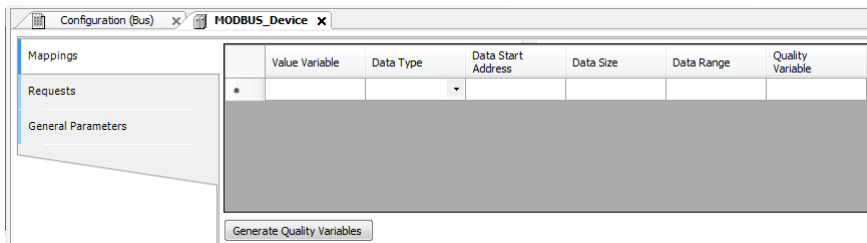

Figure 91: MODBUS Data Mappings Screen
- Add and configure the MODBUS mappings on Mappings tab as Figure 91, specifying the variable name, data type, and the data initial address, the data size and range are filled automatically.